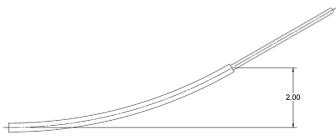

FIGURE 4: PROBE RIGID PROBE SHAFT
- 8) Typical procedures may require the following bend profiles created with the use of the TOOL, as illustrated in Figure 4.